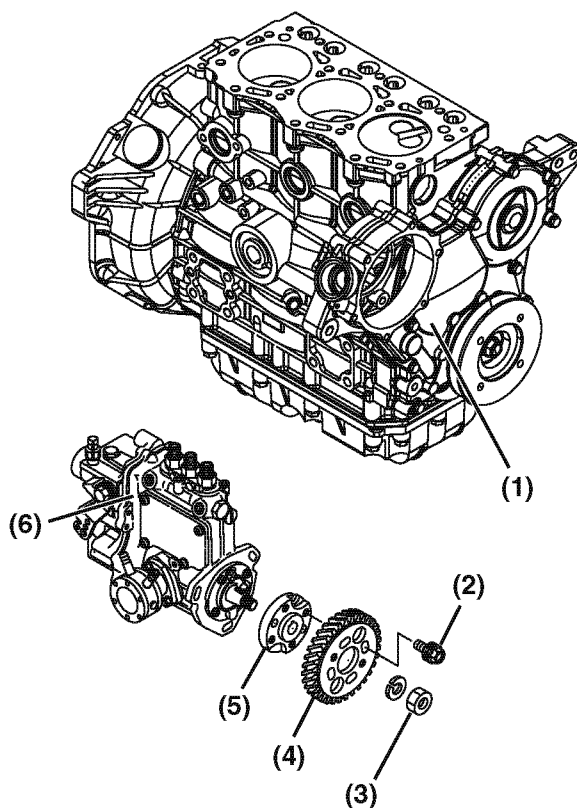

Figure 5-121
1. Remove the drive gear nut (Figure 5-121, (3)) on fuel pump drive gear and pull out the fuel pump drive gear / flange assembly with an extraction tool.
Do not disassemble the pump drive gear (Figure 5-121, (4)) from the pump flange (Figure 5-121, (5)).
2. Remove the three nuts for the fuel injection pump (Figure 5-121, (6)).
3. Remove the pump and O-ring from the gear housing cover (Figure 5-121, (1)).
1. Loosely install the fuel injection pump (Figure 5-121, (6)) on the gear housing.
4. Install the fuel injection pump drive gear (Figure 5-121, (4)) to the fuel pump camshaft.